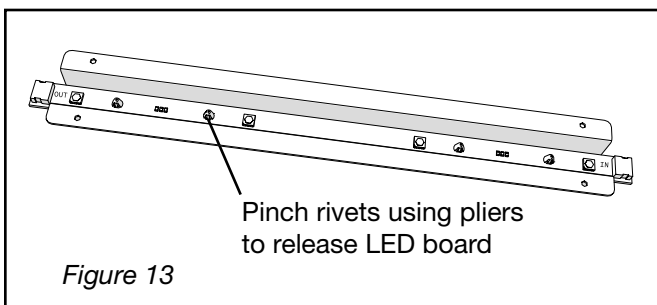

Figure 13
4. Remove the four screws (two on each end). (Figure 13)